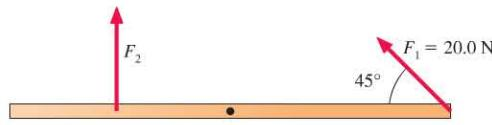

FIGURE P7.10
10. In Figure P7.10, force  $\vec{F}_2$  acts half as far from the pivot as  $\vec{F}_1$ . What magnitude of  $\vec{F}_2$  causes the net torque on the rod to be zero?